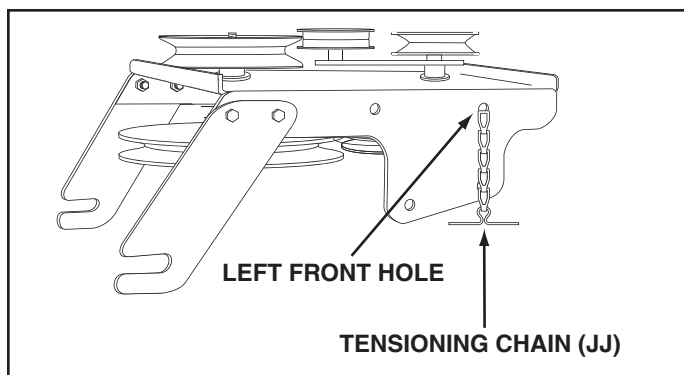

FIGURE 15
STEP 15: (SEE FIGURE 15)
- Turn the clutch/idler assembly upside down and place the extra tensioning chain (JJ) through the left front hole.